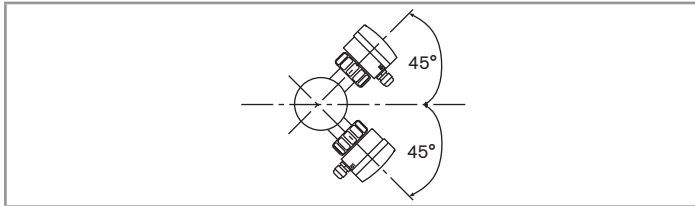

Fig. 5: Mounting angle on the pipe
- Preferably install the device at a 45° angle to the horizontal centre of the pipe to avoid having deposits on the electrodes and false measurements due to air bubbles (see Fig. 5).